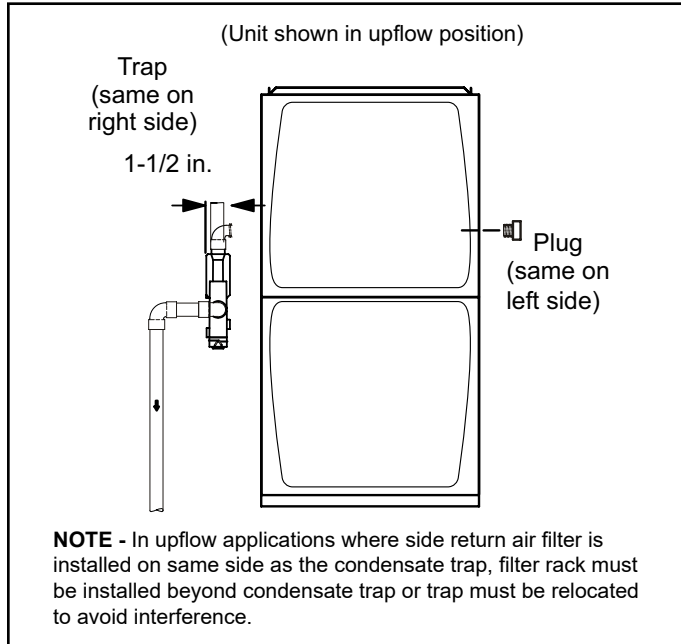
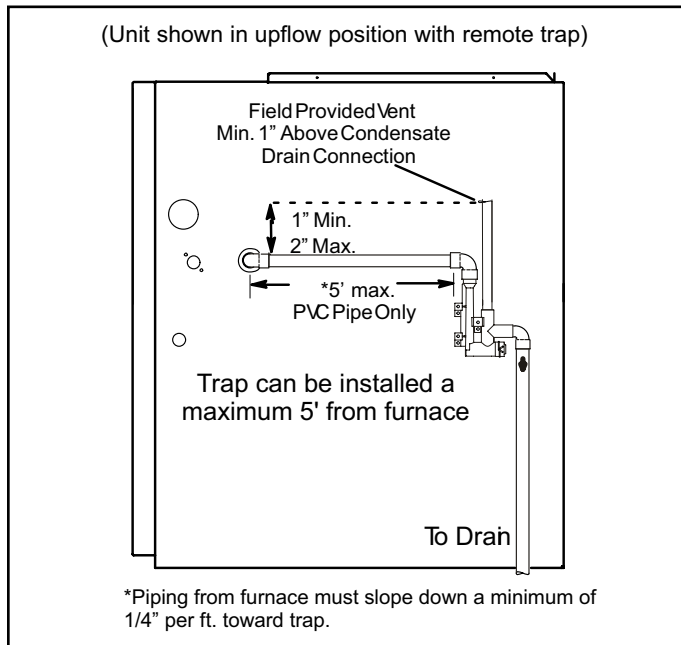
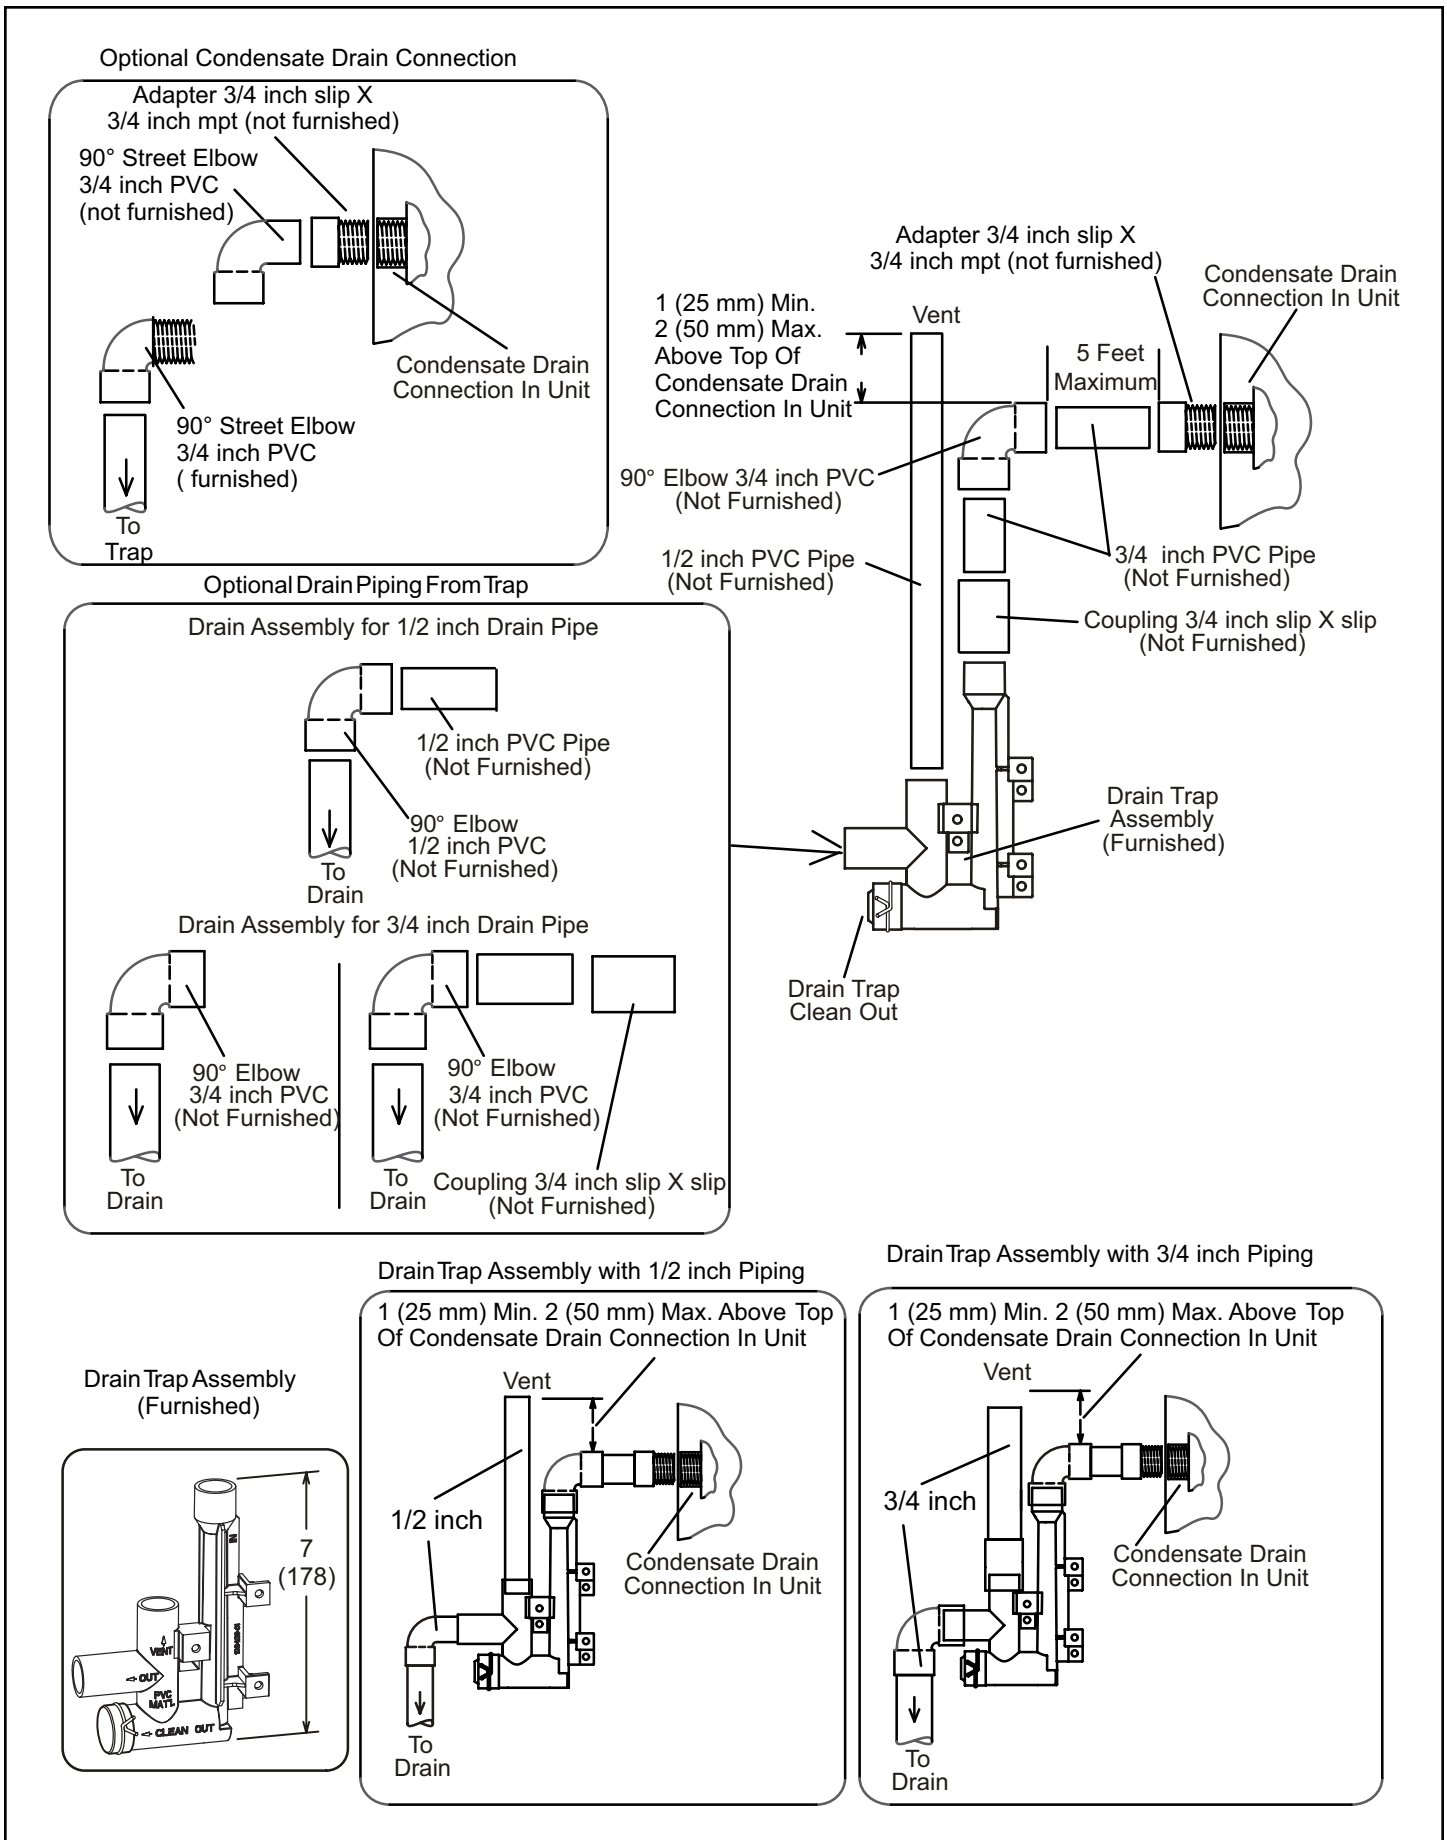

Figure 43. Condensate Trap and Plug Locations
Figure 44. Condensate Trap Locations
Figure 51. Trap / Drain Assembly Using 1/2" PVC or 3/4" PVC
This unit is designed for either right- or left-side exit of condensate piping in upflow applications. In horizontal applications, the condensate trap must extend below the unit. An 8" service clearance is required for the condensate trap. Refer to Figure 43 and Figure 44 for condensate trap locations. Figure 51 (3/4" drain connection) and NO TAG (1/2" drain connection) show trap assembly using 1/2" PVC or 3/4" PVC.
2. For furnaces with a 1/2" drain connection use a 3/8 allen wrench and remove plug (Figure 43) from the cold end header box at the appropriate location on the side of the unit. Install field-provided 1/2 NPT male fitting into cold end header box. For furnaces with a 3/4" drain connection use a large flat head screw driver or a 1/2" drive socket extension and remove plug. Install provided 3/4 NPT street elbow fitting into cold end header box. Use Teflon tape or appropriate pipe dope.
3. Install the cap over the clean out opening at the base of the trap. Secure with clamp. See Figure 51 or NO TAG.
4. Install drain trap using appropriate PVC fittings, glue all joints. Glue the provided drain trap as shown in Figure 51 or NO TAG. Route the condensate line to an open drain. Condensate line must maintain a 1/4" downward slope from the furnace to the drain.